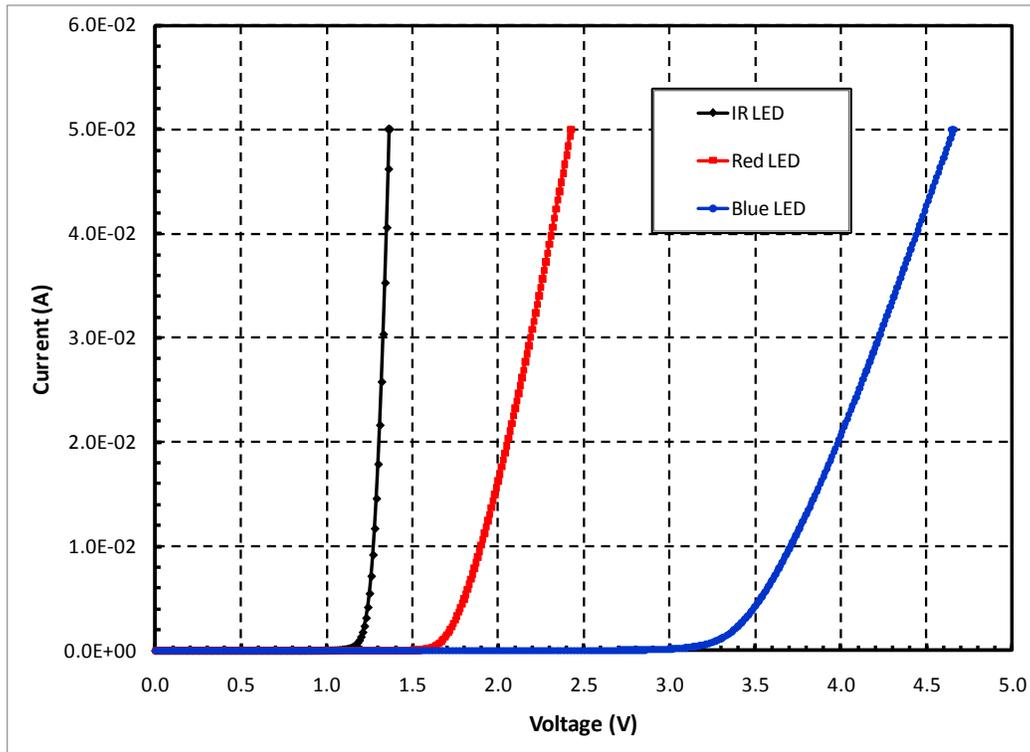

Figure 2. Typical I-V curves for the Infrared, Red and Blue LEDs.
Figure 1 shows the emission spectra of the three LEDs we will be testing as a function of wavelength as well as the sensitivity of our detector diode. Figure 2 shows the I-V characteristics of the three LEDs. Note that the turn on increases with the increasing energy of the emission.
3. Obtain the values of the forward voltage for the diode  $I$ - $V$  characteristics shown in Fig. 2. Compare this with the values of the peak emission wavelengths shown in Table 1. (Use Eq. 2 to get energies.)
4. Estimate the series resistance from the  $I$ - $V$  curves shown in Fig. 2.